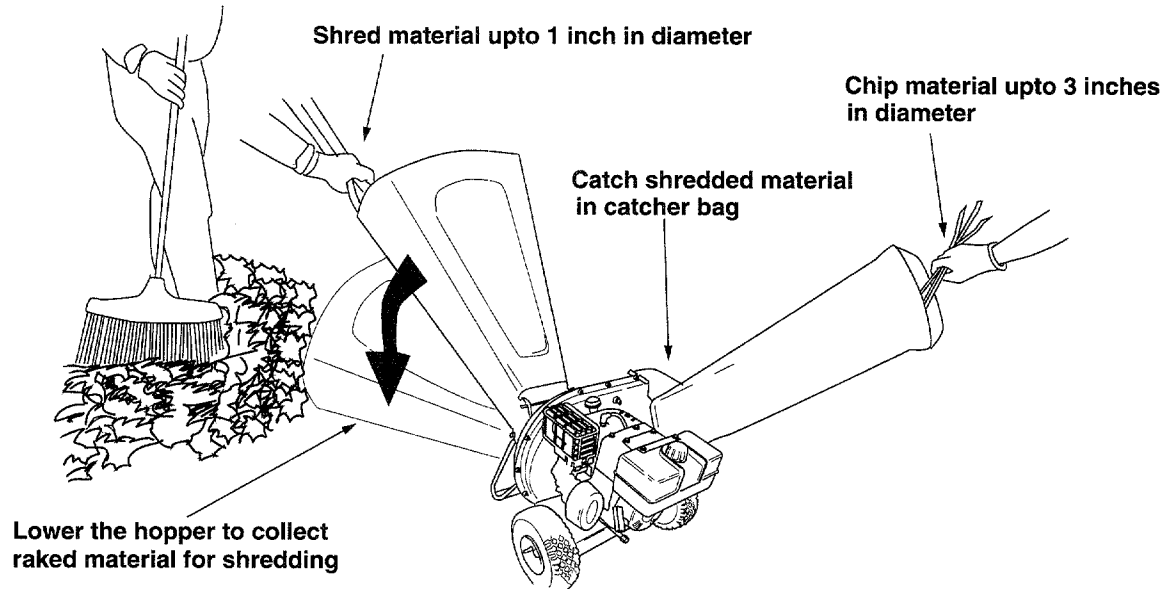

Figure 12
- a. Leaves and small branches up to 1" diameter (maximum) can be fed into the hopper assembly when it is in the raised or lowered position. See figure 12.
- b. Bulky material, such as stalks or heavy branches, up to 3" in diameter should be fed into the chipper chute. See figure 12.